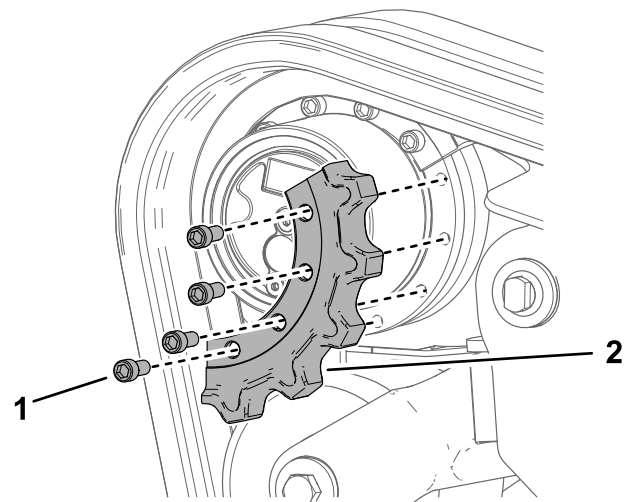

Figure 72
12. Remove the sprocket segment (Figure 72).
6. Apply thread-locking compound to the bolts of 1 drive sprocket segment that you removed and install the sprocket segment (Figure 72). Torque the bolts to 247 to 301 N·m (182 to 222 ft-lb).